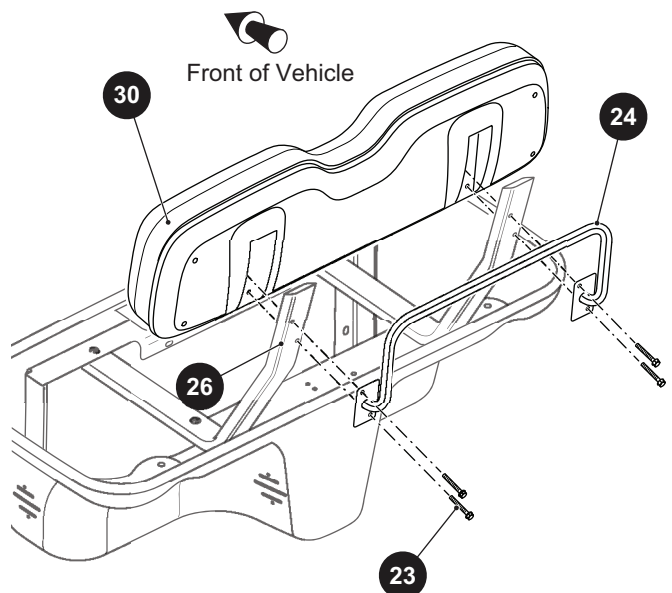

Fig. 10 Seat Back
Remove the bolts (23) securing the hand grip (24) and seat back (30) to the seat back support (26) (Ref Fig. 10).